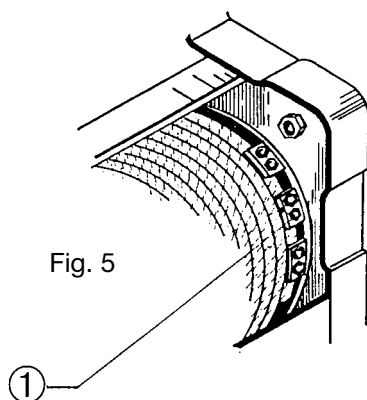

Fig. 5
**Rope removal:** pull out the wedge (Fig. 4), then extract the rope end from the socket and pull out the rope from the lower block pulleys and the deflection pulley, if any. Fully unwind the rope from the drum by pressing the "down" button on the keypad, until the end of the drum. Loosen the fastening screws of the rope clamps (Fig. 5).
**Mounting new rope:** push the cable last clamp letting out of about 40 mm the end of the rope ; tighten the clamp screws ( Fig . 5 - pos .1) tightening the rope up to the crushing of the same and fix the other terminals .